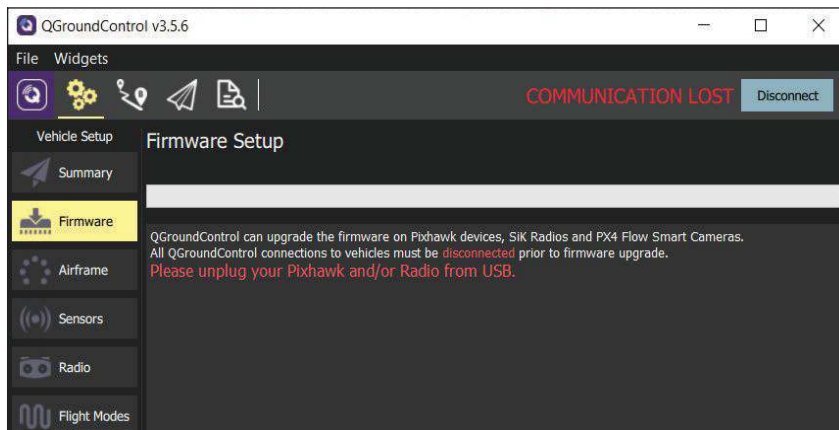
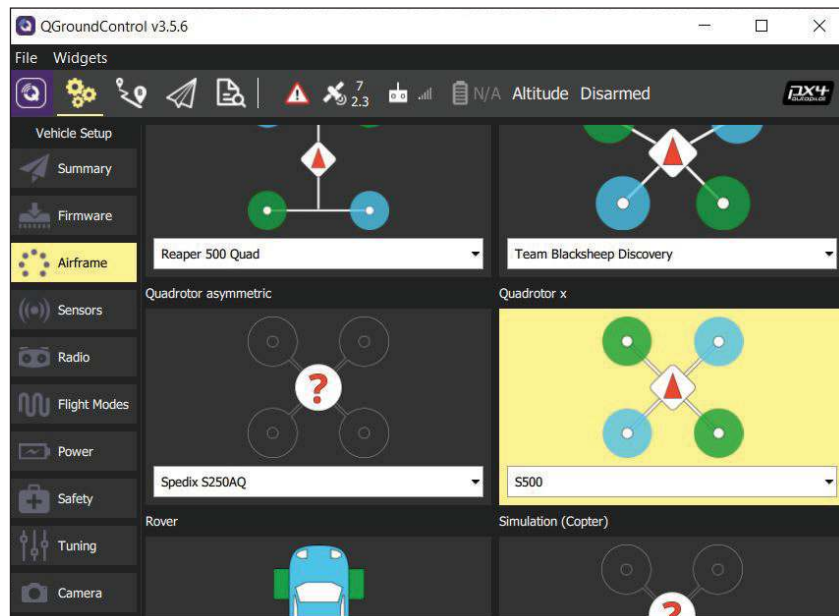

FIGURE 6
FIGURE 7
Step 1. Firmware flashing. It is really easy to flash the firmware to the flight controller by using ground control software. With QGroundControl, you can do that by going to the "Firmware" submenu located in the "Vehicle Setup" menu (**Figure 6**) and following the instructions given there. After flashing the PX4 firmware, the frame type must be configured in the "Airframe" submenu, under the "Quadrotor x" option. I chose the "S500" for this build (**Figure 7**).